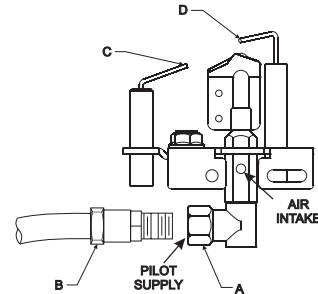

Figure 59
3. If intermittent pilot unit stops working, clean flame sensor C (Figure 59) with a damp cloth.
4. If intermittent pilot ignitor does not spark, clean ignitor D (Figure 59) with a damp cloth.